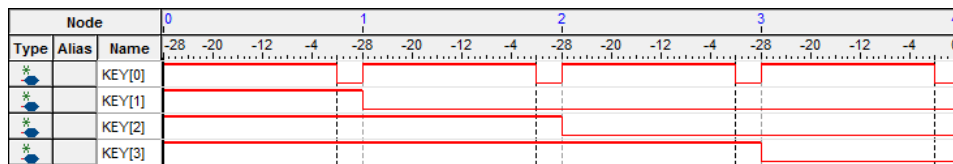

Figure 23. Possible waveforms that could result when using the Segmented Acquisition mode.
- Go back to the SignalTap window and click **Processing > Run Analysis**. Now, press and release KEY[0], and in between clicks change the values of the other 3 keys. After you have done this 4 times, the values in the buffer will be displayed in the data window, and this will display the values that the 4 keys had at around each trigger. A possible waveform is presented in Figure 23. This resulted from the user pressing and holding one more key between each click of KEY[0].